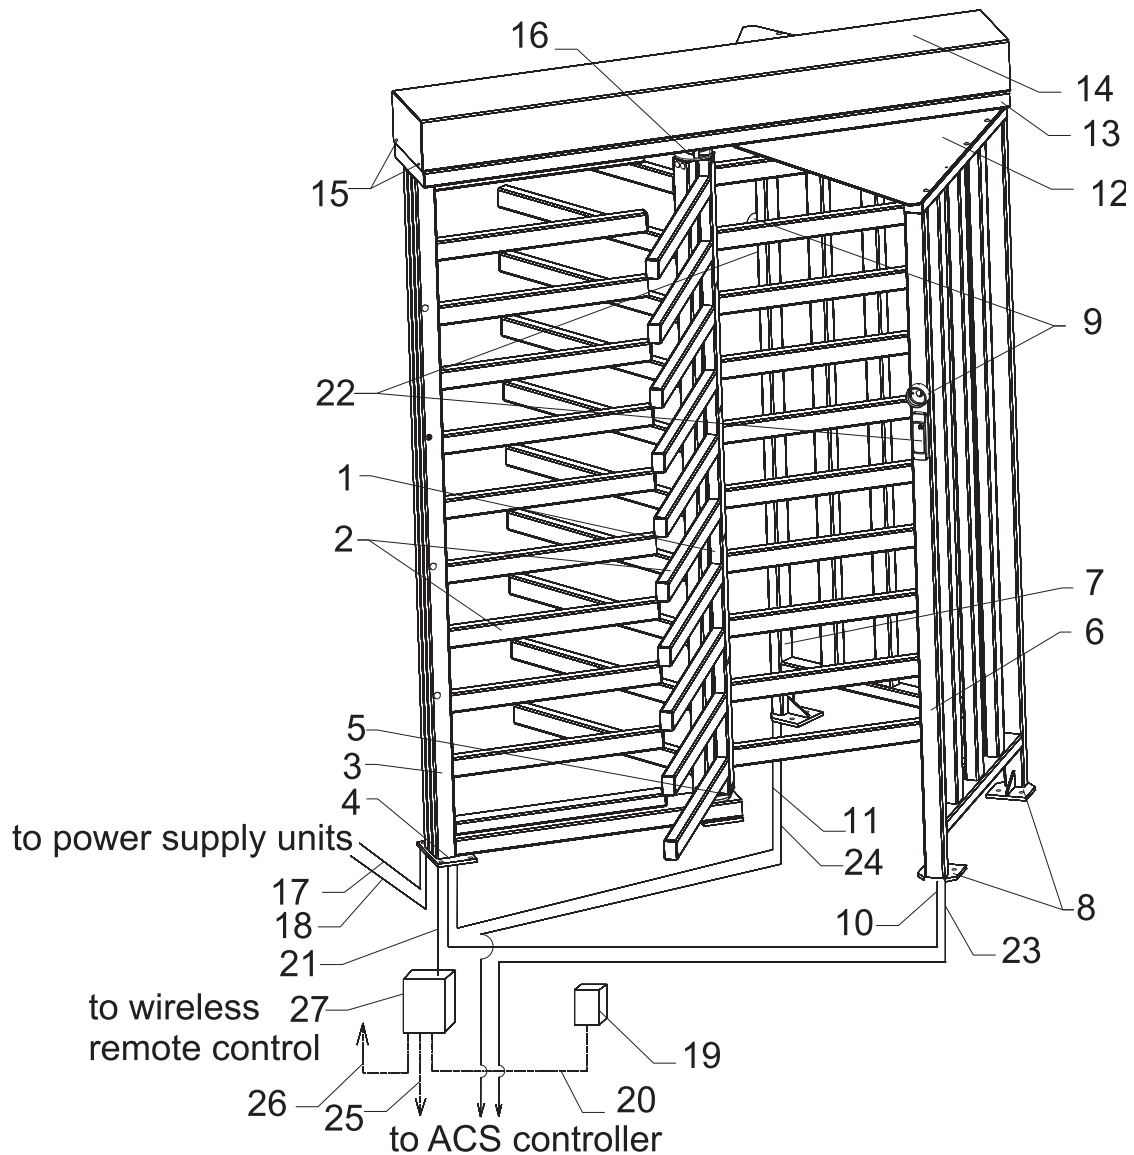
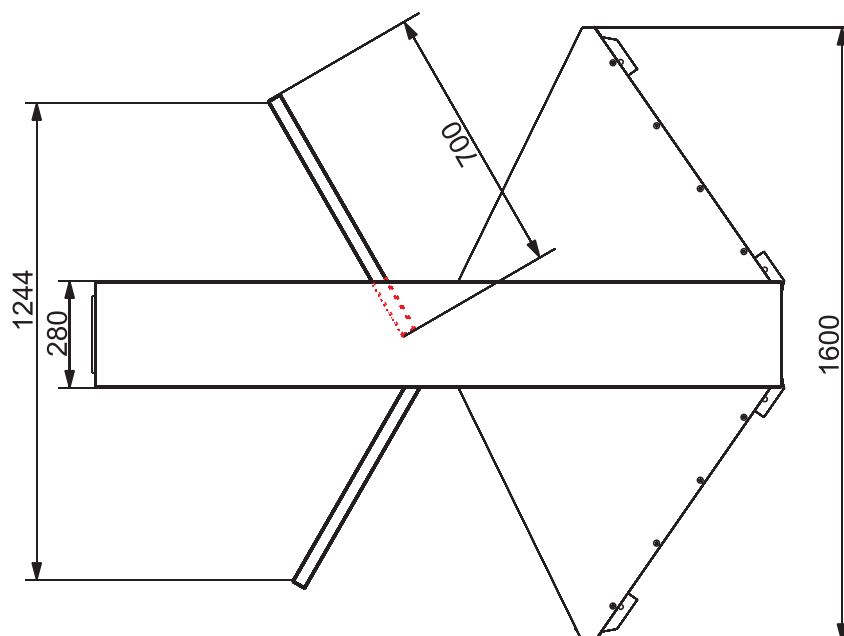
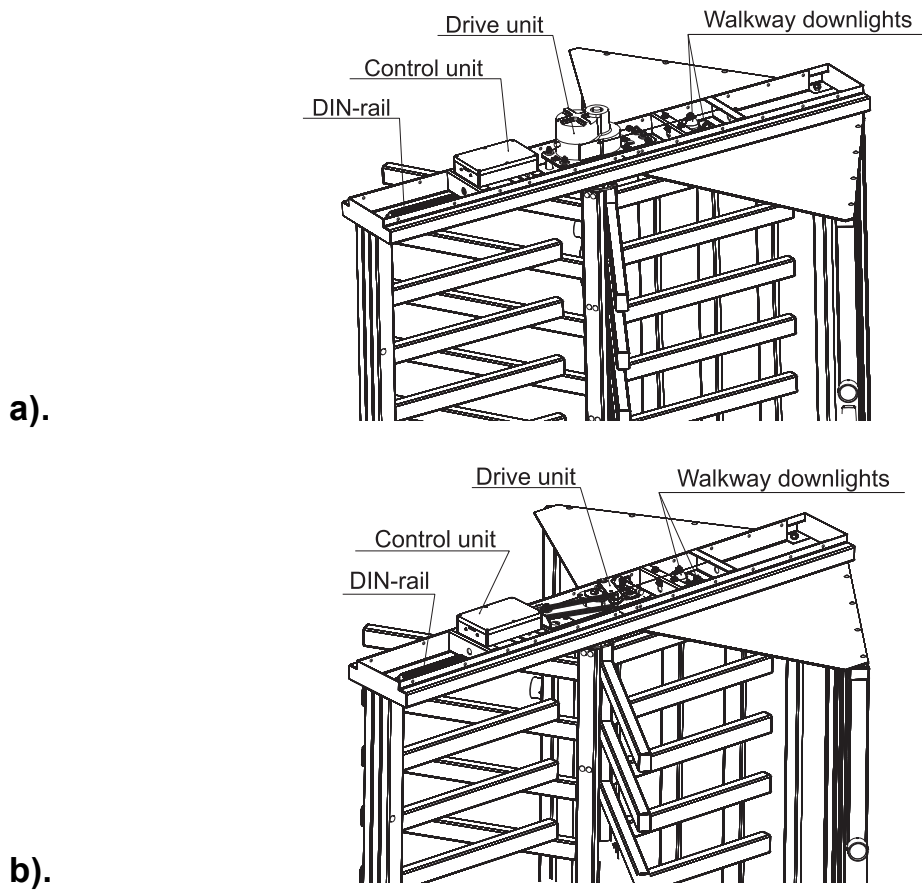

Fig. 1. Design of the turnstile
Fig. 2. Overall dimensions:
Fig. 3. Top channel (13) with cover (14) off:
5.2.1 Design of the turnstile is shown in Fig. 1. The overall dimensions are shown in Fig. 2.
The numbers of the positions in brackets in this Manual are given according to Fig. 1, except noted otherwise.
5.2.10 The *control unit* (the CU) is designed as a separate boxed device placed inside the top channel (13). For connection convenience all the CU connectors and terminal blocks are positioned on a DIN-rail also mounted inside the top channel (Fig.3). All cables are wired to the DIN-rail through the lower hole in the barrier section (3) from the side of the flange (4), then up the post into the top channel (Fig. 1, 3).
Access mode A: *Standard rotor orientation*: Only one barrier wing blocks the passageway in the reset state (Fig. 1, 12a). This access mode allows setting of standard operating modes of the turnstile (Table 1. A).
5.5.3 The turnstile design enables mounting of ACS readers (22) on the supporting posts of the guide barrier sections. The readers' position and the cable layout are shown in Fig. 1 and 8.